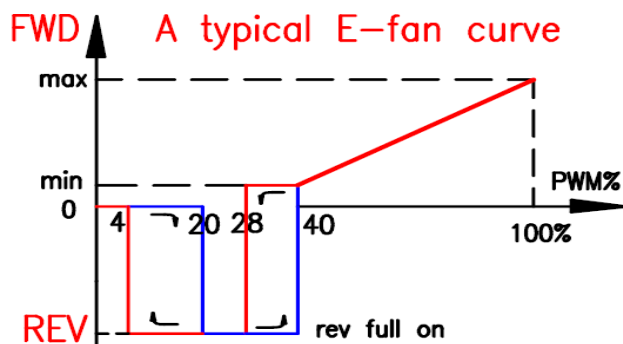

Figure 4
- **Zero Fan Speed PWM** – the PWM % that causes the fan(s) to stop (figure 4).
- **Maximum PWM** – the PWM % that causes the fan(s) to run at maximum RPM (figure 4).
- **Minimum PWM** – the PWM % that causes the fan(s) to run at minimum RPM (figure 4).
- **Reverse PWM** – the PWM % that causes the fan(s) to run in Reverse (figure 4).